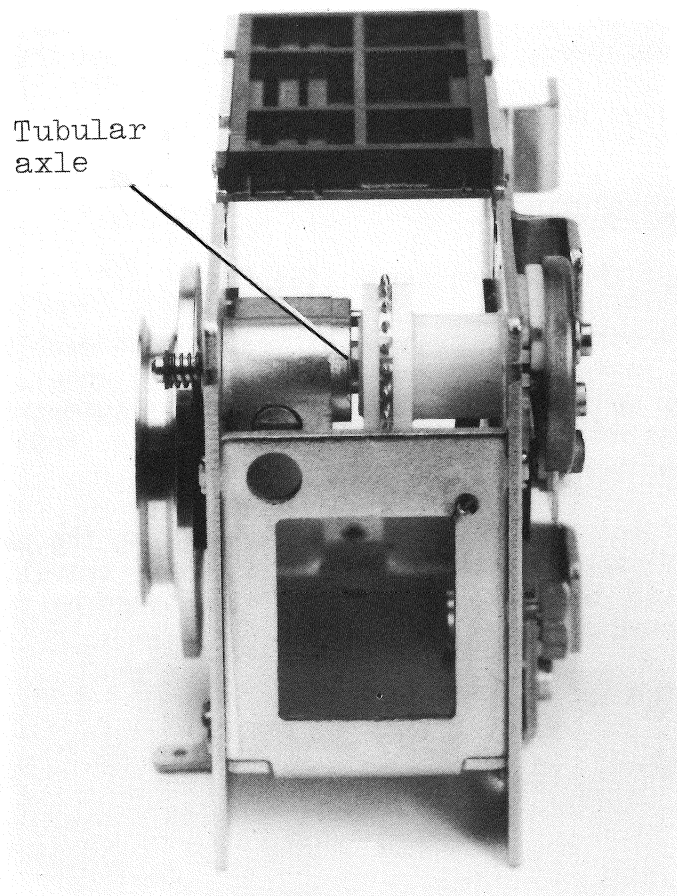

Fig. 5.5d Lubrication
- g) Lubricate the tape feed wheel where it bears on the tubular axle (Fig. 5.5d).